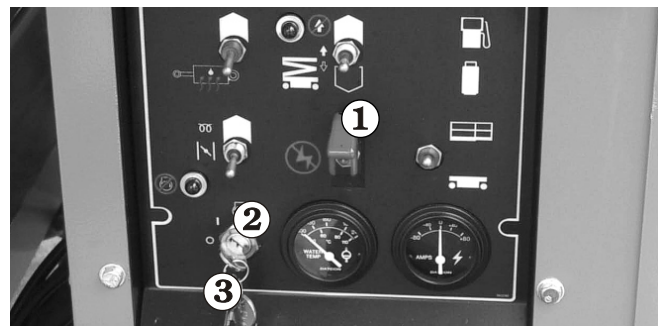

Figure 10.5
1. Push the **Emergency Stop** switch ① down (OFF) and set the **Main Power** switch ② to OFF then remove the key ③ (see Figure 10.5).